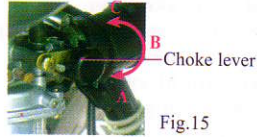

Fig.15
Carburetor choke lever (Fig.15)
- If starting a cold engine, set the choke lever to the fully closed position.(refer to the Fig.15 on the page 5)
- Return the choke lever into the half open position as soon as the engine is running.(refer to the Fig. 15 in the page 5).